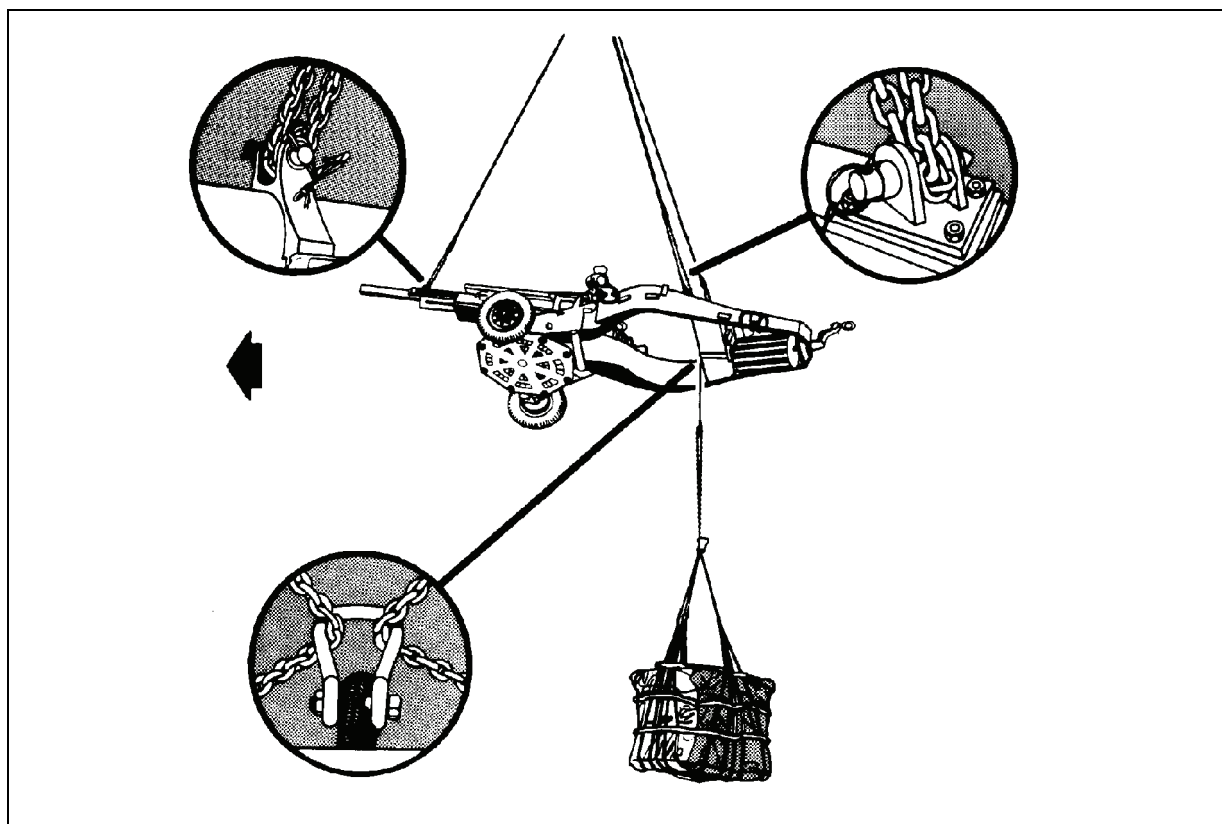

Figure 6-3. M102 105-MM Howitzer with One A-22 Cargo Bag
- **Rigging.** Rig the load according to the steps in Figure 6-3.